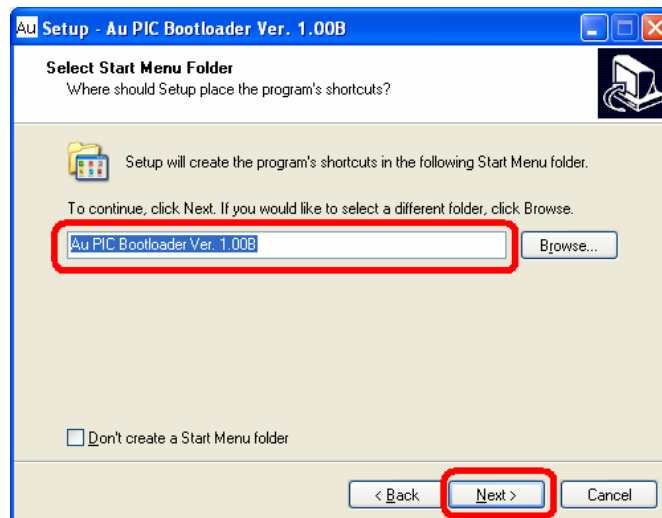

Figure 6-18
5. A "Select Start Menu Folder" window will pop up, use default setting "AU PIC Boot-loader", then click "next" (Figure 6-18).